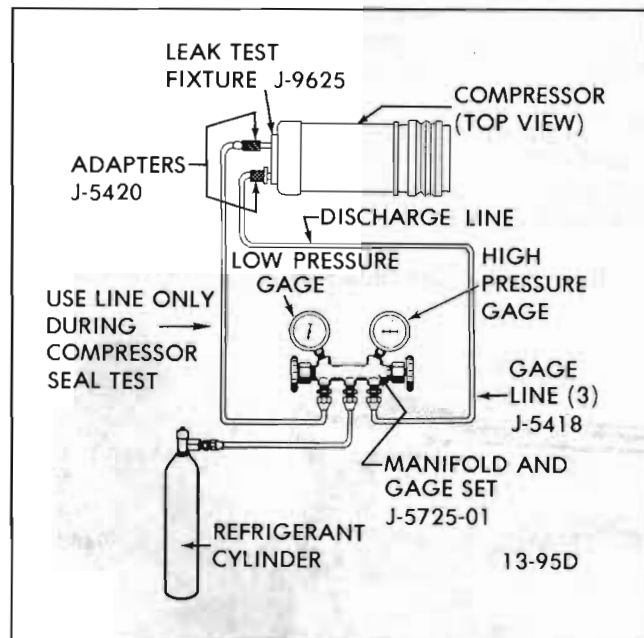

Figure 13-23 Leak Testing Shaft Seal and Seal Seat O Ring
6. Install Compressor Leak Test Fixture (J-9625) on rear head of compressor and connect gage charging lines as shown in Figure 13-23. Pressurize suction side of compressor with Refrigerant-12 vapor to drum pressure. Temporarily install the shaft nut and, with compressor horizontal and oil sump down, rotate the compressor shaft in normal direction of rotation several times by hand. Leak test the seal with a propane torch type leak detector in good condition. Correct any leak found. Remove and discard the shaft nut.